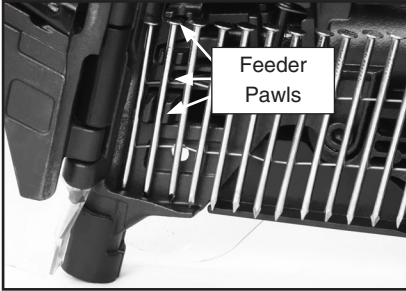

Figure 6. Putting the nails in firing position.
- Put the first nail into the driving hole and the second nail between the two pawls of the feeder as shown in **Figure 6**.